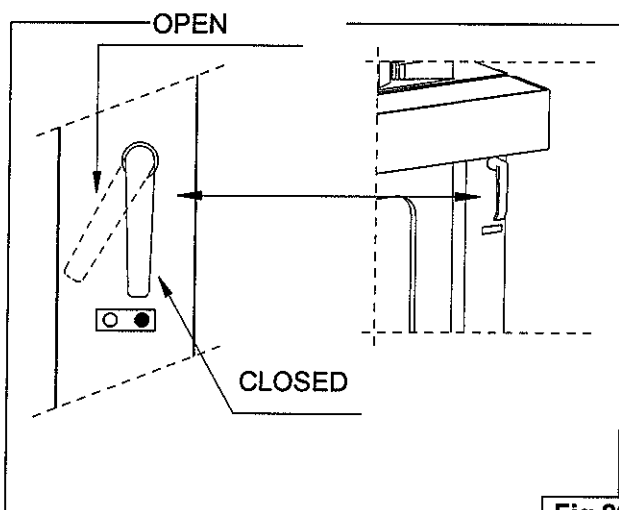

Fig.29
Close and lock the door; close the manual lock on the steam box (**Fig. 29**); set a temperature of 60°C and switch on the fan ; press the START button . The set of elements starts to operate and after a few minutes, when it reaches the temperature set, it should go off.
- Open the manual steam vent as shown in **Fig. 29**